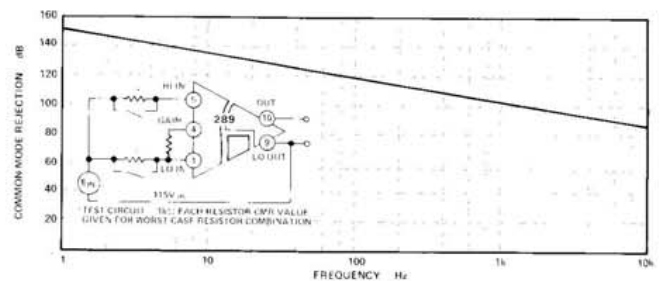

Figure 11. Typical Common Mode Rejection vs. Frequency
**Common Mode Rejection:** Input-to-output CMR is dependent on source impedance imbalance, signal frequency and amplifier gain. CMR is rated at 115V ac, 60Hz and 1kΩ balanced source at a gain of 100V/V. Figure 11 illustrates CMR performance as a function of signal frequency. CMR approaches 156dB at dc with source imbalance as high as 1kΩ. As gain is decreased, CMR is reduced. At a gain of 1V/V, CMR is typically 6dB lower than at a gain of 100V/V.